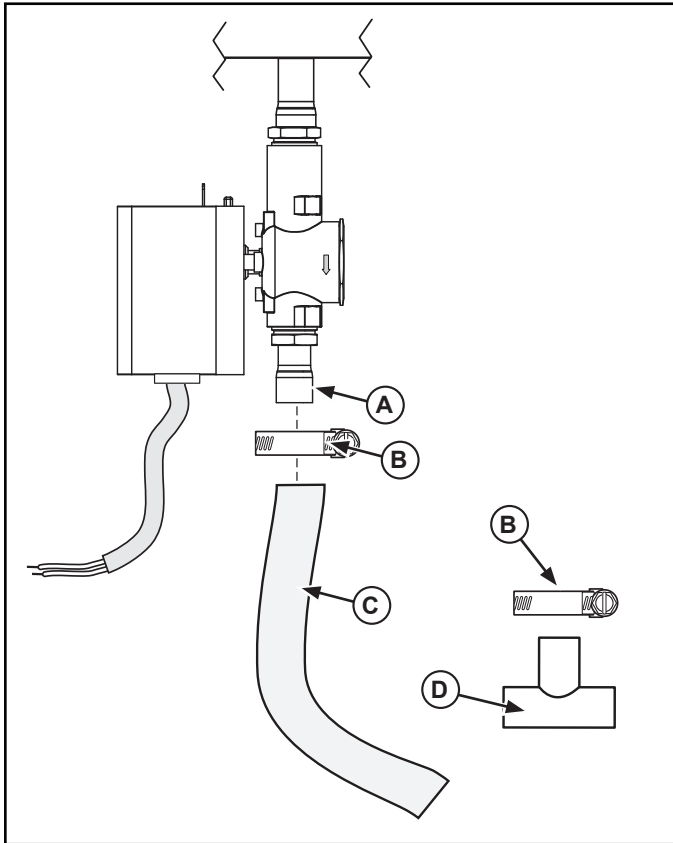

Figure 6. Drain Tube, Clamp and "T" Fitting.
- Cut and install the drain tubing (C), "T" fittings (D) and clamps (B) as needed and route to drain. See Figure 6.